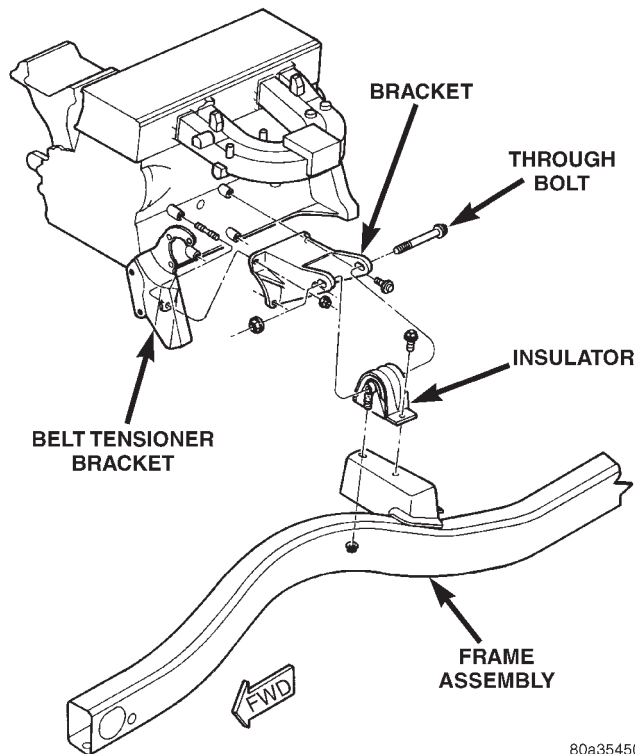
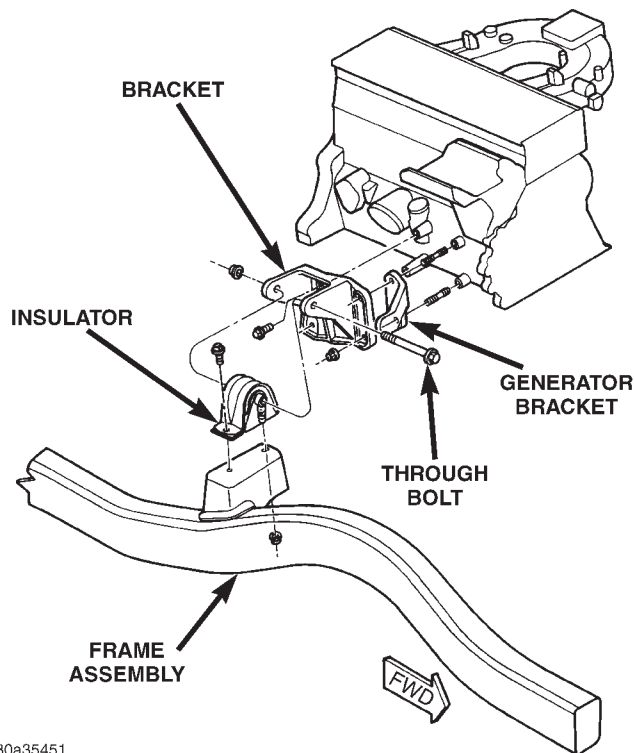

Fig. 24 Left Front Mount—2.5L Engine
Fig. 25 Right Front Mount—2.5L Engine
- (4) Remove through bolt nut (Fig. 24) (Fig. 25). DO NOT remove the through bolt.
- (5) Remove the retaining bolts and nuts from the support cushions.
- (6) Remove the through bolt.
- (7) Remove the engine mount insulator.